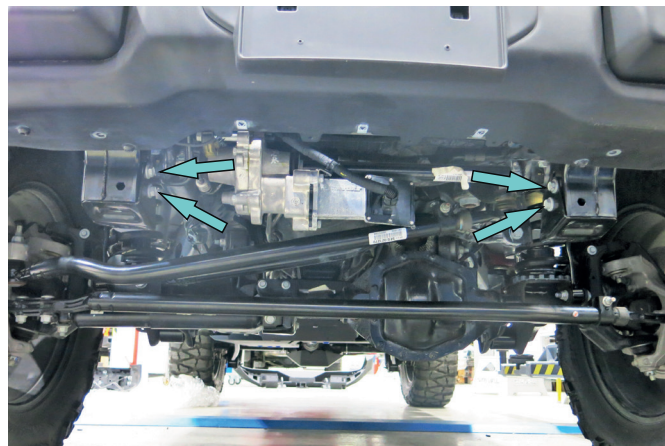

Fig. 2
2. Unscrew 2 bolts (on each side) securing skid plate bracket (Fig. 2).